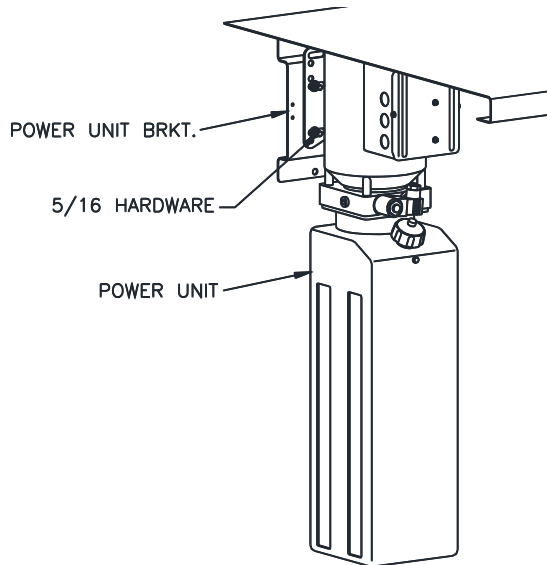

Fig. 10 – Power Unit Mounting
16. Attach the Power Unit to the Power Unit Bracket using the four (4) 5/16 x 1/2" Lg. flanged bolts and nuts provided, **Fig 10**.